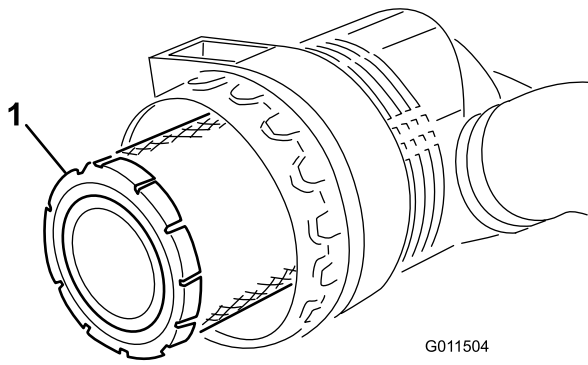
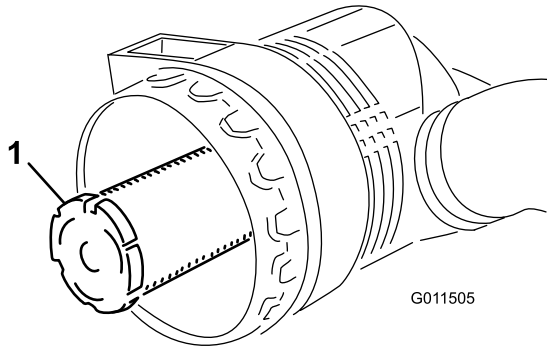

Figure 49
Figure 50
3. Remove the primary filter (Figure 49). Cleaning of the used element is not recommended due to the possibility of damage to the filter media. Inspect the new filter for shipping damage, checking the sealing end of the filter and the body. Do not use a damaged element. **Do not** remove the safety filter (Figure 50).
Important: Never attempt to clean the safety filter (Figure 50). Replace the safety filter with a new one after every three primary filter services.
4. Replace the primary filter (Figure 49).